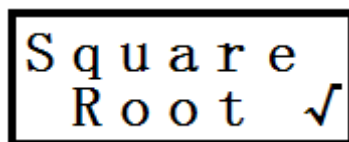

Figure39
12.3 Enter "Left" or "Right" once, and then screen display "Square Root", as shown in Figure 39;